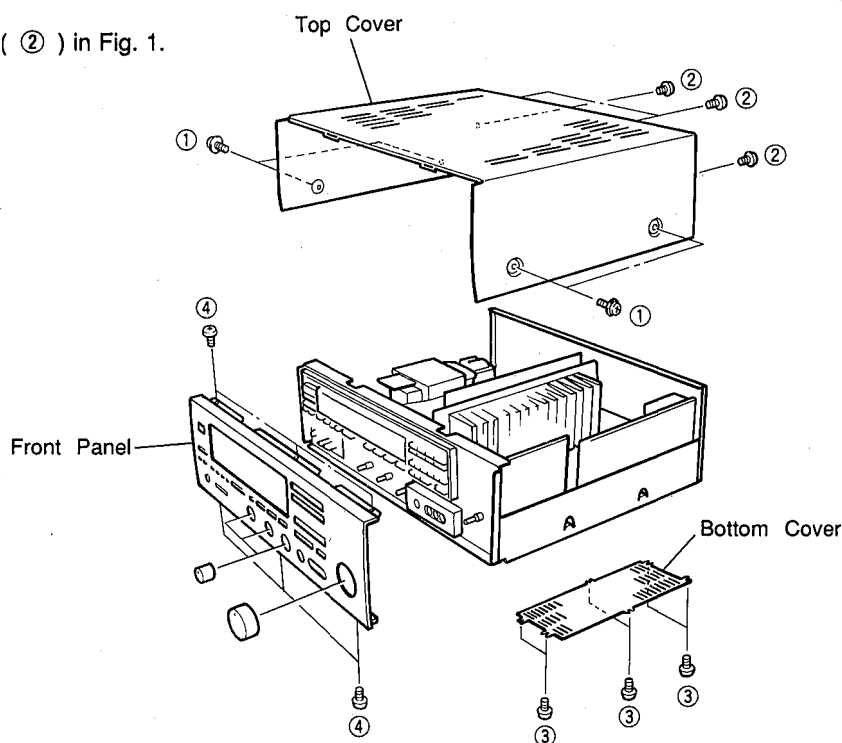

Fig. 1
- a. Remove 4 screws ( ① ) and 4 screws ( ② ) in Fig. 1.
- a. Remove 6 screws ( ③ ) in Fig. 1.
b. Remove 6 screws ( ④ ) in Fig. 1.